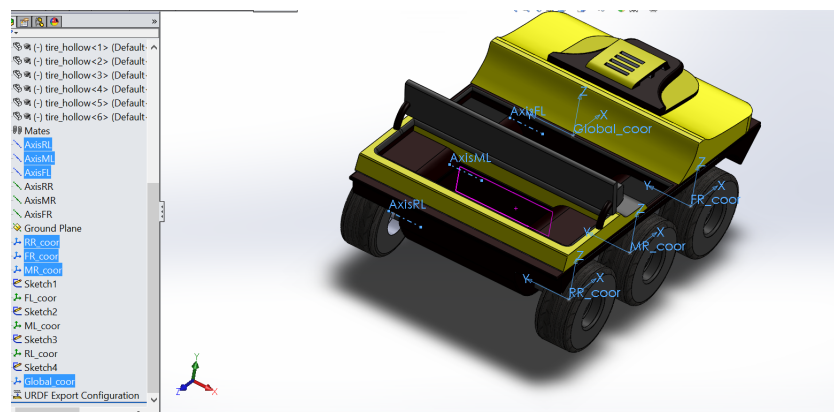

Figure 9: Axes and Coordinates
13. Define the axes and Coordinate Systems consistent with ROS TFs since the coordinate system of ROS is different from Solidworks. Fig. 9 shows such coordinates and axes. Make sure to define a global coordinates at the approximate location of the Centre of Mass. Notice the difference in the axes definations at the wheels and the Global Coordinates at the com.